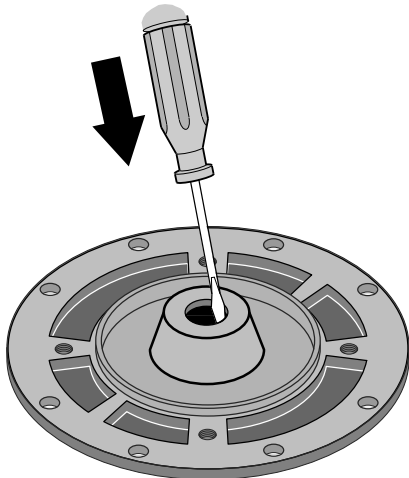

Figure 17 – Tap Out Seal
5. Place seal plate half face down on flat surface and tap out stationary half of seal (see Figure 17).